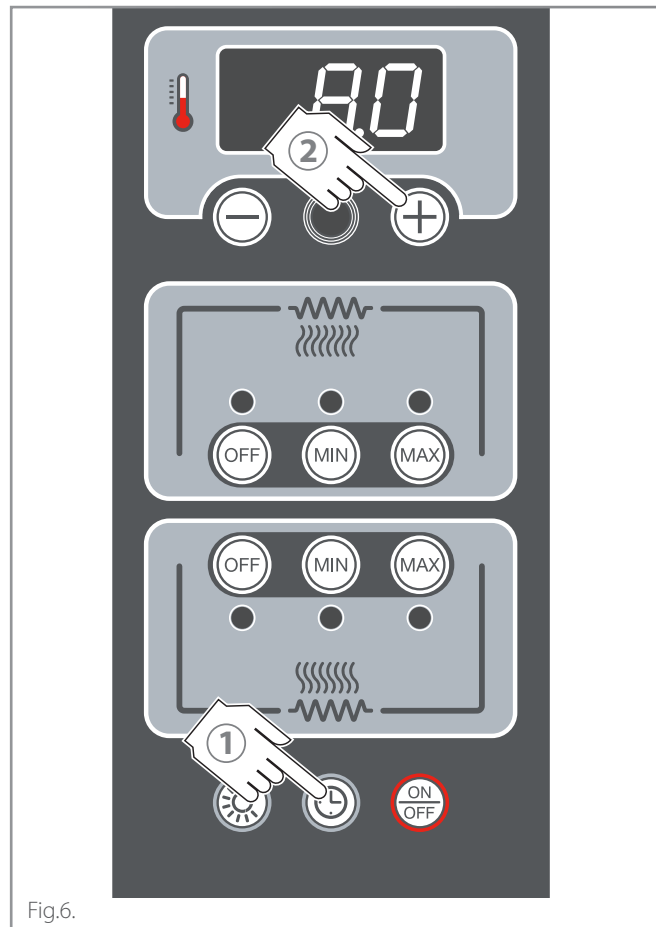

Fig.6.
See ▶ chapter "**Programmed switch-on**" on page 10 and ▶ **Fig.6.**
▶ **Fig.6.**